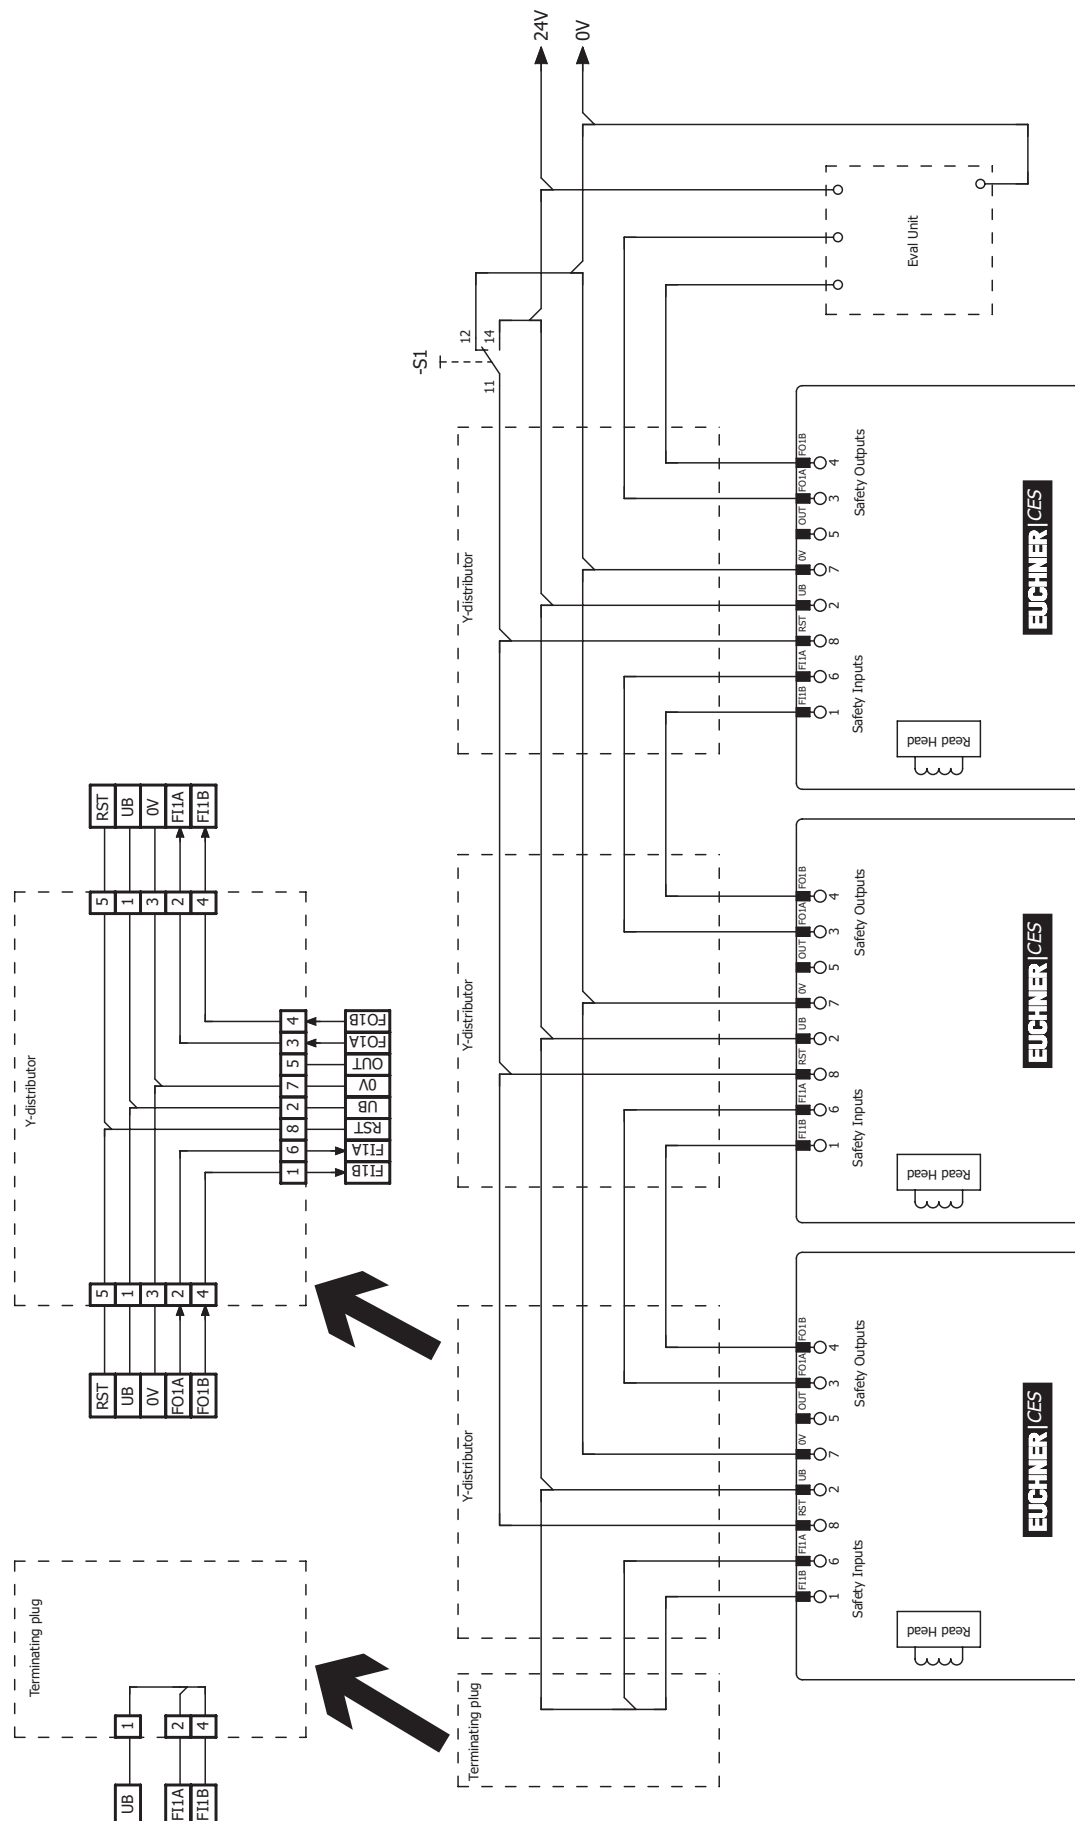

Figure 4: Connection example for series connection with reset and changeover switch
- › A common signal must be used for all switches in the chain. This can be a changeover switch or the output of a control system. A pushbutton is not suitable because the reset must always be connected to GND during operation (see switch S1 in *Figure 4 on page 20*).
Input RST must be connected as shown in *Figure 4 on page 20* to permit this.